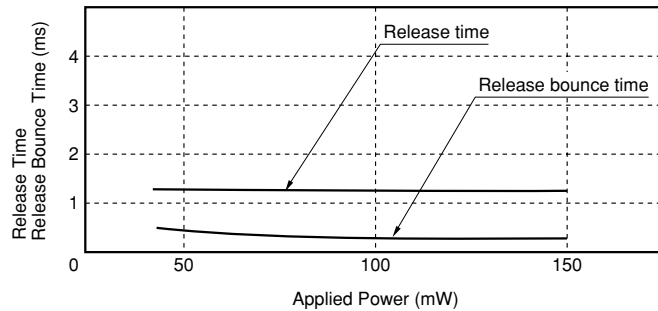

Figure 3.4 Driving Power vs. Timing
Figure 3.4 (1) shows the relations among the power applied to drive the relay, the operate time, and the bounce time. Figure 3.4 (2) shows the relations among the supplied power, the release time, and the bounce time, and Figure 3.4 (3) shows the relations among the supplied power, the release time, and the bounce time when a diode is not connected to the coil to absorb surges.